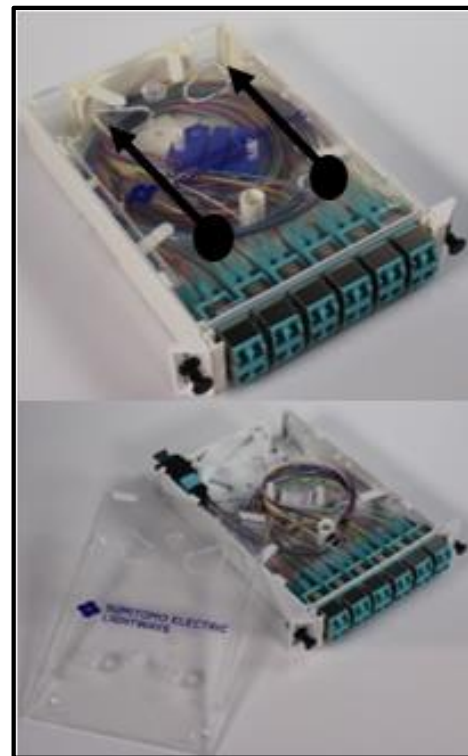

Figure 4
- B. Cover/Lid – The cover requires no tools to remove. See **Figure 4**.